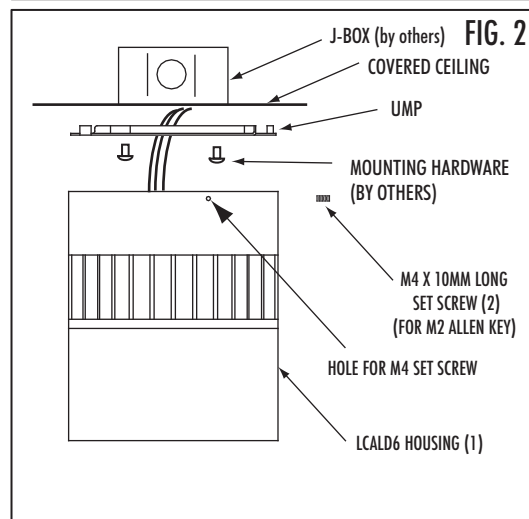

FIG. 2
1. Loosen set screw with supplied M2 allen key until front of set screw is just inside the housing (FIG 2).
2. Remove Universal Mounting Plate (UMP) from housing top (FIG 2).
5. Connect Universal Mounting Plate (UMP) to j-box (by others) with appropriate hardware (by others) (FIG 2).